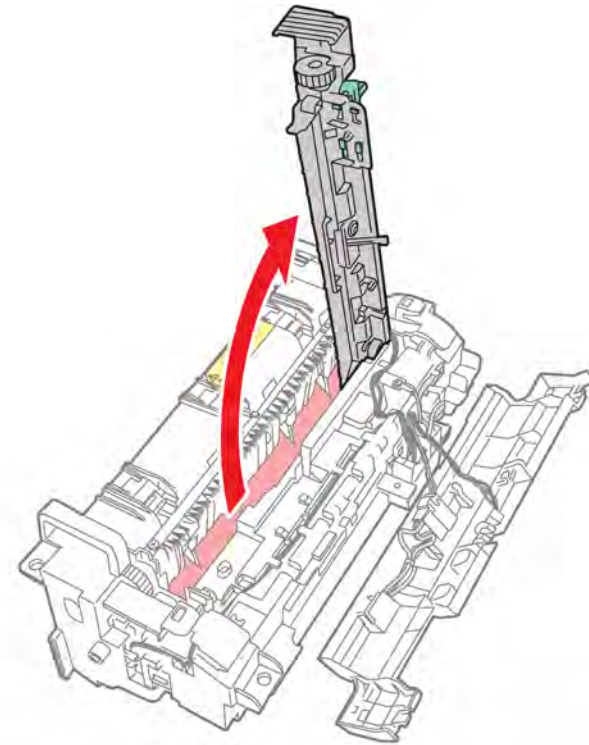

Figure 3 Open the lower exit guide
- Open the lower exit guide, Figure 3.